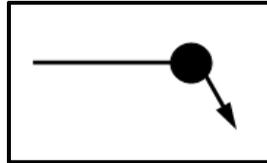

FIGURE 5.2.1
5.2 Identify the weld symbols in FIGURES 5.2.1 to 5.2.4 below.